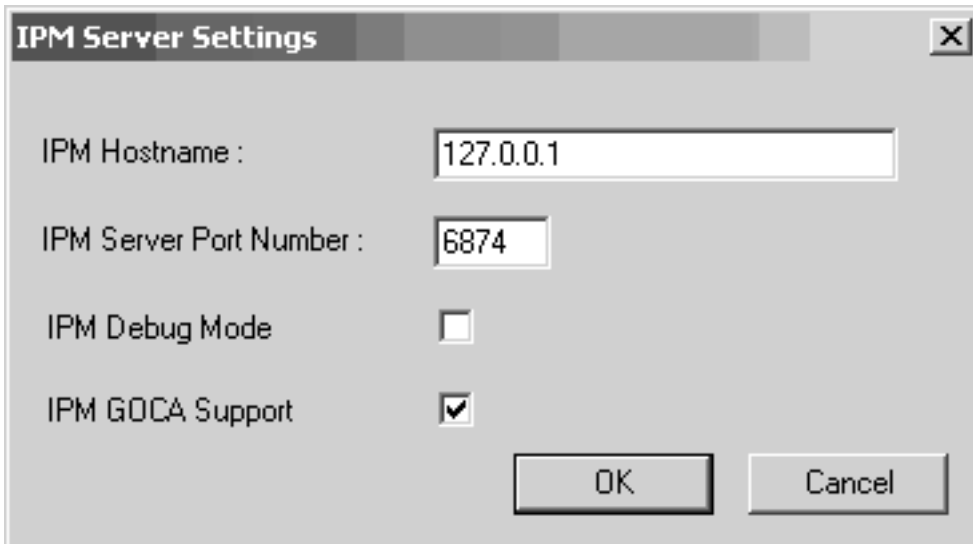

Figure 35. IPM Server Settings dialog
6. From the IPM Server Settings pop-up dialog (see Figure 35 on page 90), specify either the fully-qualified host name or the IP address of the InfoPrint Manager server to which you will be sending jobs. The **IPM Hostname** field defaults to showing the loop back address and must be changed.